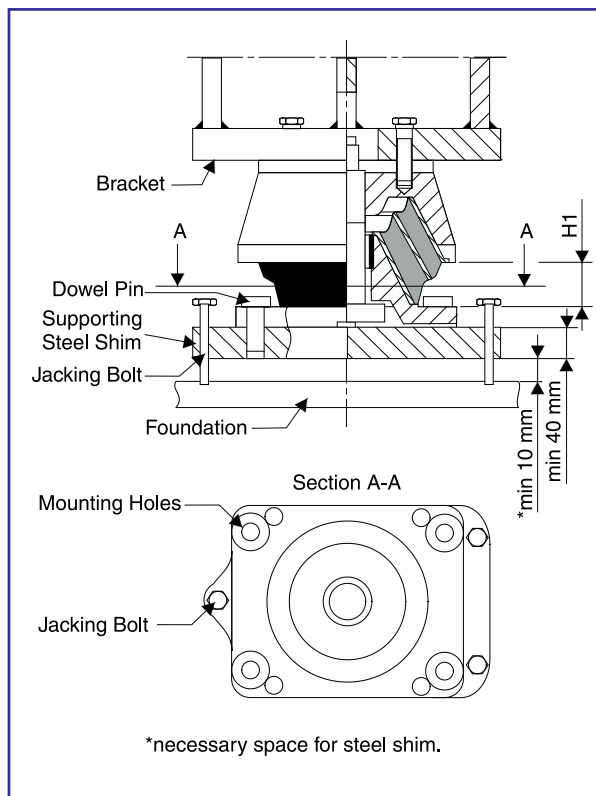

Fig 2 Conical mounting.
- 3) Position the supporting steel shim as per fig 2 and locate the conical element by means of dowel pins.
- 4) Position the three jacking bolts in the tapped holes in the supporting steel shim as per fig 2.
- 5) Position the jacking bolts with a through-going of minimum 10 mm, see fig 2.
After the conical elements have been deflected under static load for 48 hours, the laden height (H1) see fig 2, should be measured and compared to the recommended laden height.